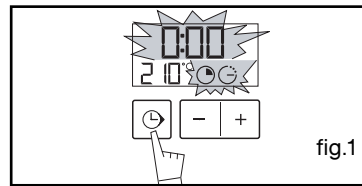

fig.1
- Press the "⌚" TOUCH CONTROL (fig.1) until the timer symbol begins flashing